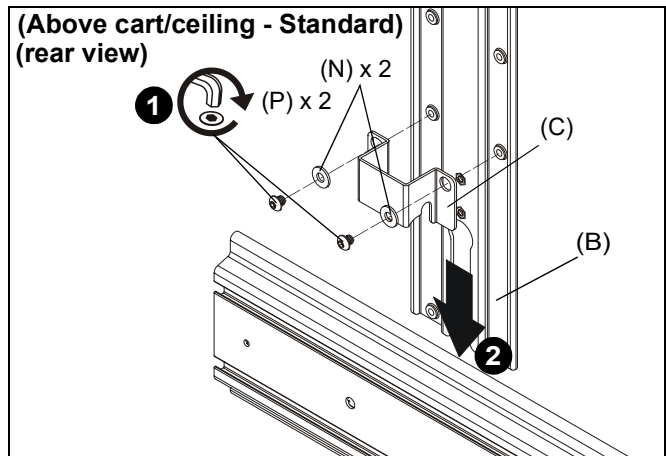

Figure 17
1. Use two 1/4-20 x 1/4" button head cap screws (P) and two large washers (N) to secure shelf bracket (C) to main bracket (B). (See Figure 17)
2. Slide main bracket (B) onto front of cart/ceiling mount head assembly until shelf bracket (C) rests on top of head assembly. (See Figure 17)